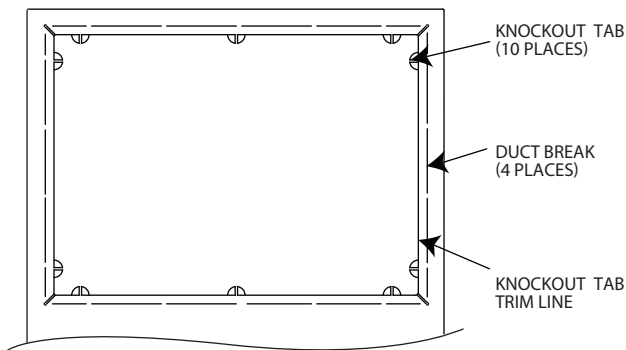
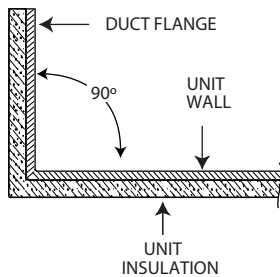

Fig. 33 — 42SM Unit Supply Air Knockout Tab Location
Fig. 34 — 42SM Unit Supply Air Installation
3. Use a sharp retractable knife to trim insulation using center knockout slot/trim line as pattern (see Fig. 33).
4. Use a sharp standard needle nose pliers and grab knockout tab (see Fig. 33).
9. Use duct pliers (hand seamers) to fold duct flange out of the unit 90 degrees for each side of the supply air opening along duct break (see Fig. 33). The 90-degree flanges can now be used as drywall stops to prevent coverage of discharge opening (see Fig. 34).